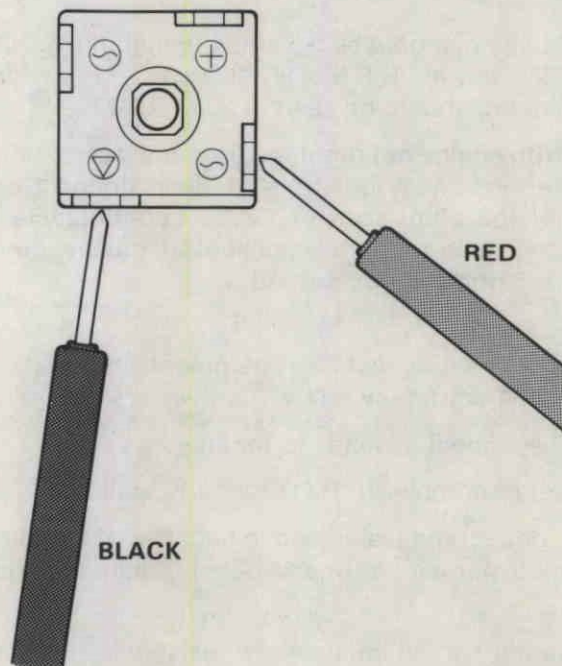

Figure 24. Test #4. Step 6.
6. Move black tester lead to negative (∇) terminal, red tester lead to one AC (\sim) terminal. Figure 24.